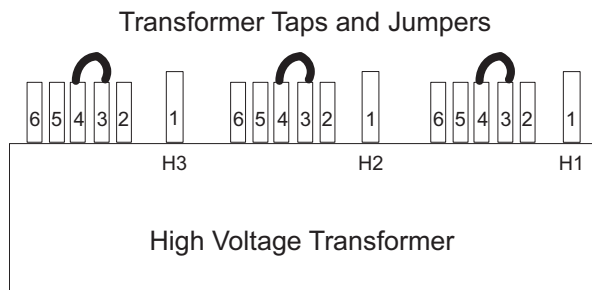

Figure 6-3 PDU Tap Positions (Rear)
- 2.) After you determine the nearest nominal line, verify the tap connections match (refer to Table 6-1 and Figure 6-3 for tap locations).